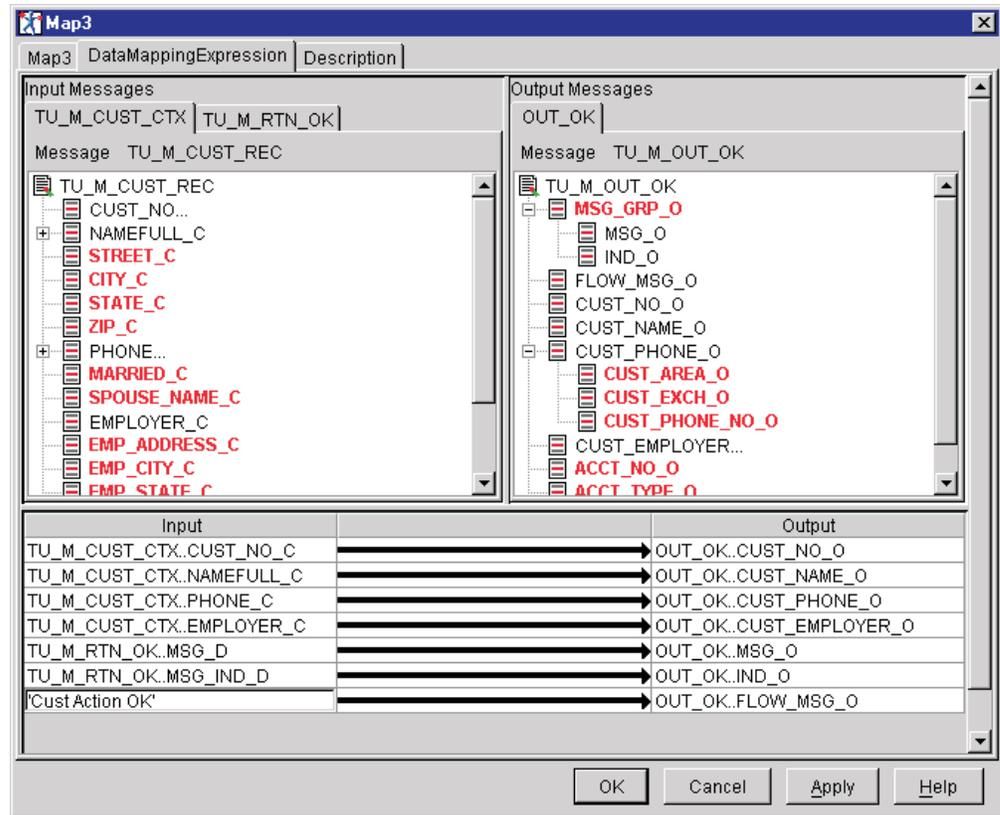

Figure 70. Mapping for Map3 node (TU\_M\_CUST\_CTX and TU\_M\_RTN\_OK messages to OUT\_OK message)
- 3) Perform the mapping for Map3 node as listed in Table 33 and Table 34 and shown in Figure 70 on page 101. This map passes customer data and good response messages to the MQ Good response Output Terminal (OUT\_OK).